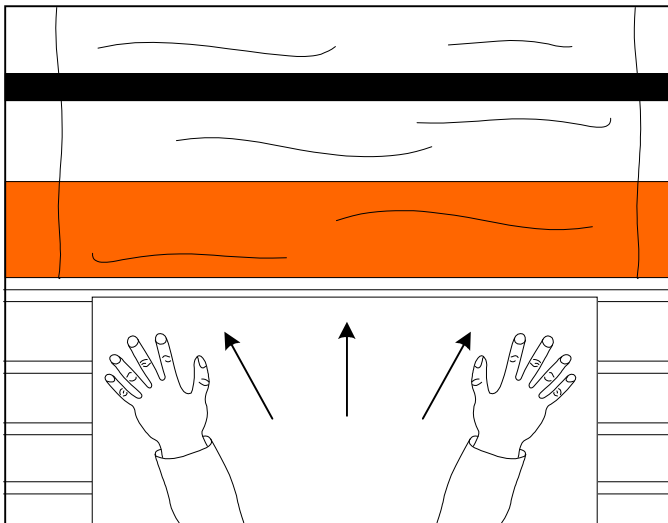

Fig. 26
9. With both hands and an outward force push the image slower than the speed of the rollers into the nip of the main rollers (Figure 26).